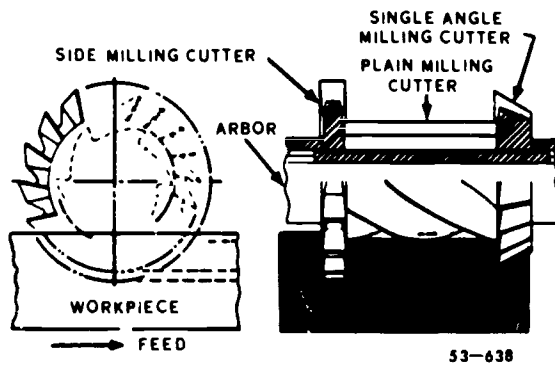

Figure 1-15 Gang milling setup
**Gang Milling.** In gang milling two or more cutters are mounted on the same arbor. All cutters may perform the same type of operation or each cutter may perform a different type of operation. For example, several workpieces need a slot, a flat surface, and an angular groove. The best method to cut these would be gang milling, as shown in figure 1-15. All the completed workpieces would be the same. Remember to check the cutters carefully for proper size.